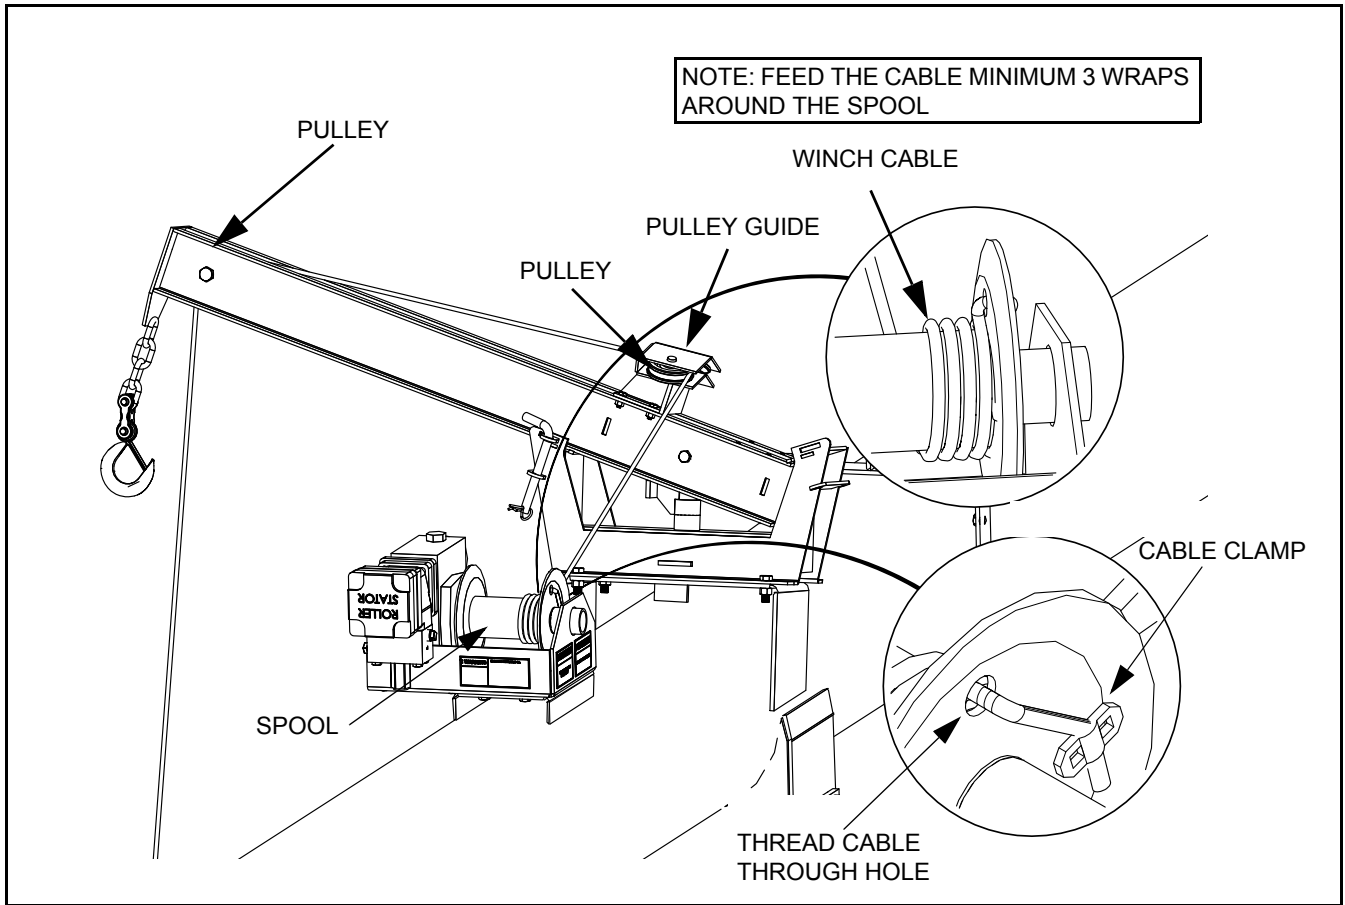

Figure 3 Installing the Winch Cable (same routing for 100 and 130 series augers)
5. Ensure that the winch cable feeds through the two lift arm pulleys (at the top of the lift arm and at the pulley guide), then feed the winch cable under the spool and connect it to the spool (minimum 3 wraps around the spool, feed cable through hole in side of spool, and secure with clamp and clamp hardware) as shown in Figure 3.